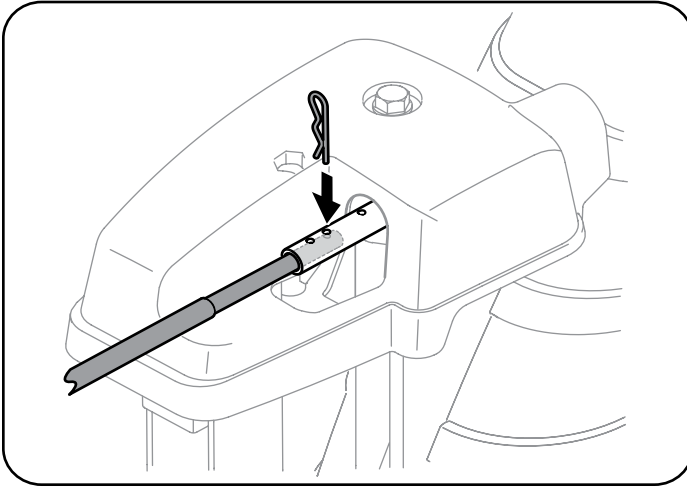

Figure 32
6. Push the chute control rod toward the control panel until the hole in the rod lines up with the middle hole in the chute control input and insert the cotter pin removed in Step 1. See Figure 32.